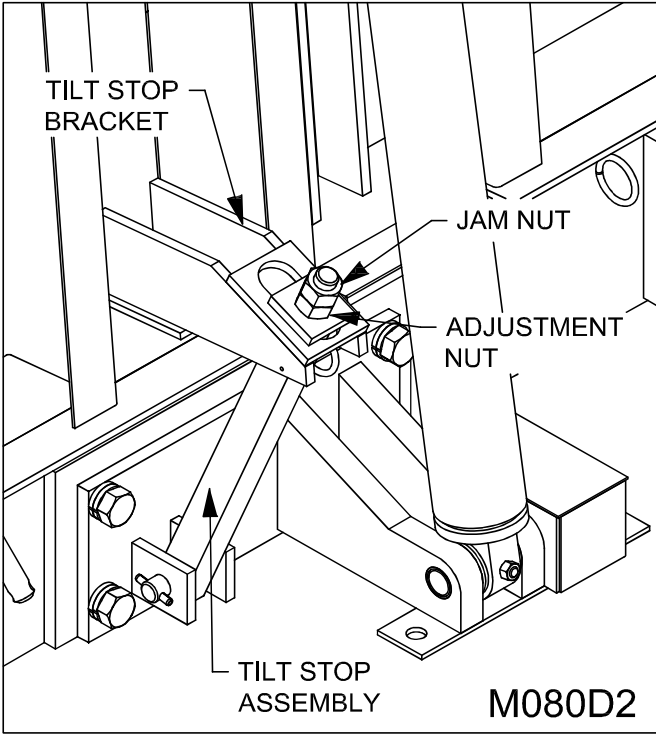

Figure 14: Tilt Stop Assembly
12. ___ Remove tilt stop assembly adjustment nut and jam nut and retain (See Figure 14: Tilt Stop Assembly on page 24).
16. ___ Re-Install the tilt stop adjustment nut and jam nut (See Figure 14: Tilt Stop Assembly on page 24).
b) Loosen off the jam nut on the tilt stop assembly. Loosen the adjustment nut to move the deck backwards, or tighten the adjustment nut to move the deck forward. Tighten the jam nut when done adjustment (See “Figure 14: Tilt Stop Assembly” on page 24).
7. ___ Tilt Stop Assembly (see “Figure 14: Tilt Stop Assembly” on page 24)